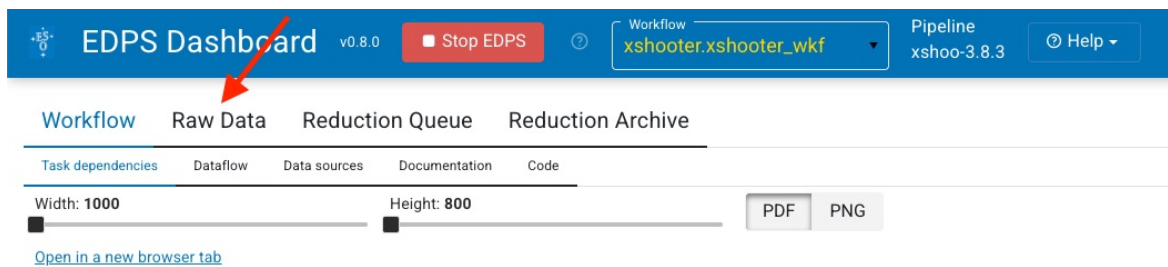

Figure 5: How to select RAW data Tab.
1. Press ‘Raw Data’ to enter the corresponding tab, as in Figure 5.